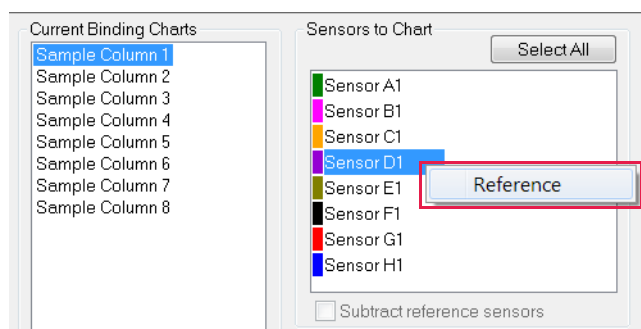

Figure 6-57: Designating a Reference Biosensor in the Runtime Binding Chart
1. In the **Sensors to Chart** list or the **Sensor Tray**, right-click a biosensor and select **Reference** (see Figure 6-57).